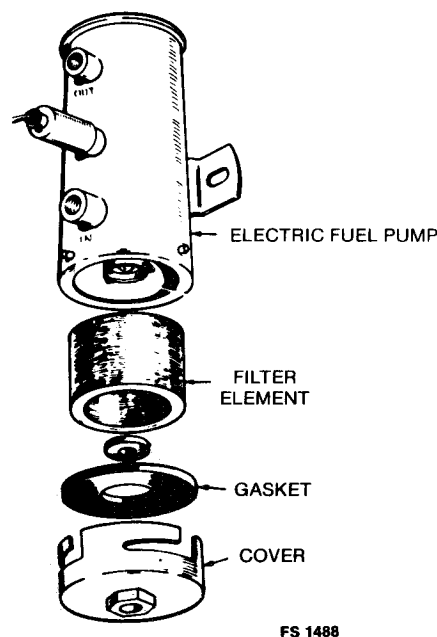

FIGURE 24. BENDIX AND FACET ELECTRIC PUMP FILTER
**Facet/Bendix Fuel Pump Filter:** These pumps incorporate a filter within the casing of the pump (Figure 24). Use a 5/8 inch wrench to twist off the bottom of the pump and remove the filter element. If the filter is dirty, replace it along with the cover gasket.